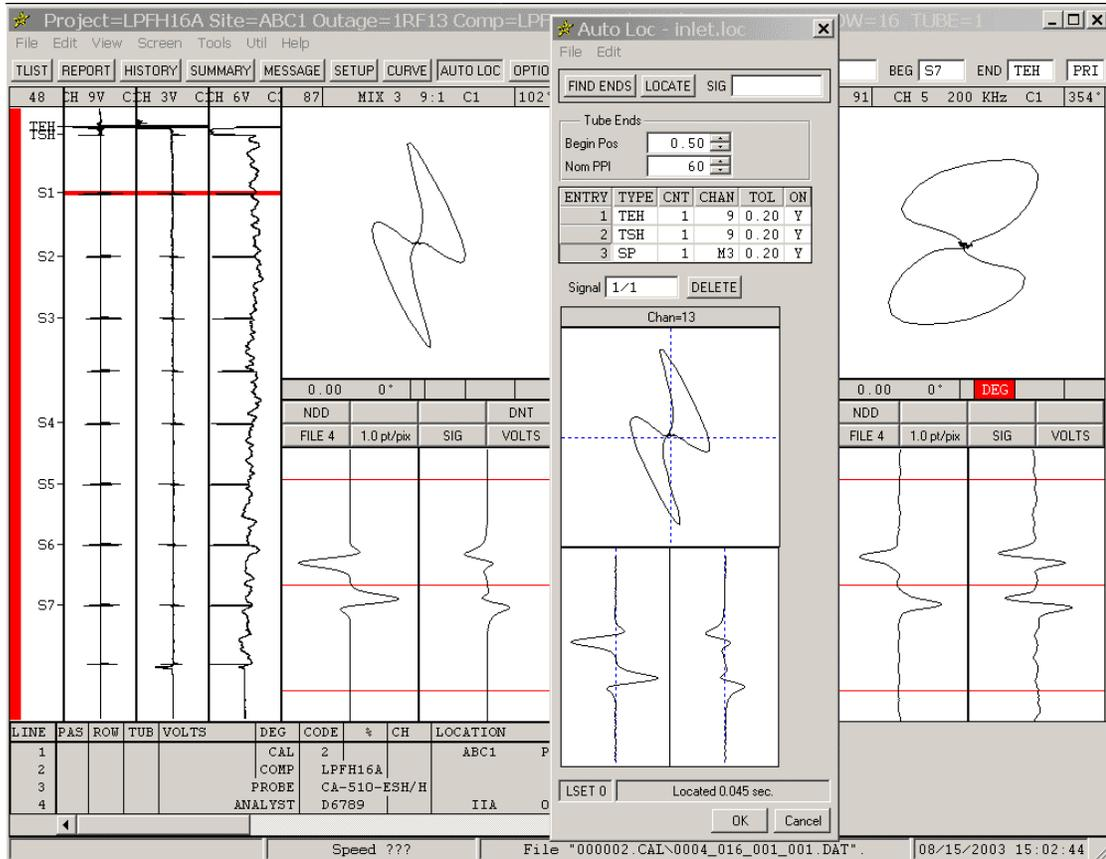

Figure 1-29. Auto-locate - Training Tube Support Structures
- STEP 20:** Click the *LOCATE* button. As shown in Figure 1-29, all, but possibly 2 of the tube supports, should appear in the *Landmark* strip at the correct locations in the data file.